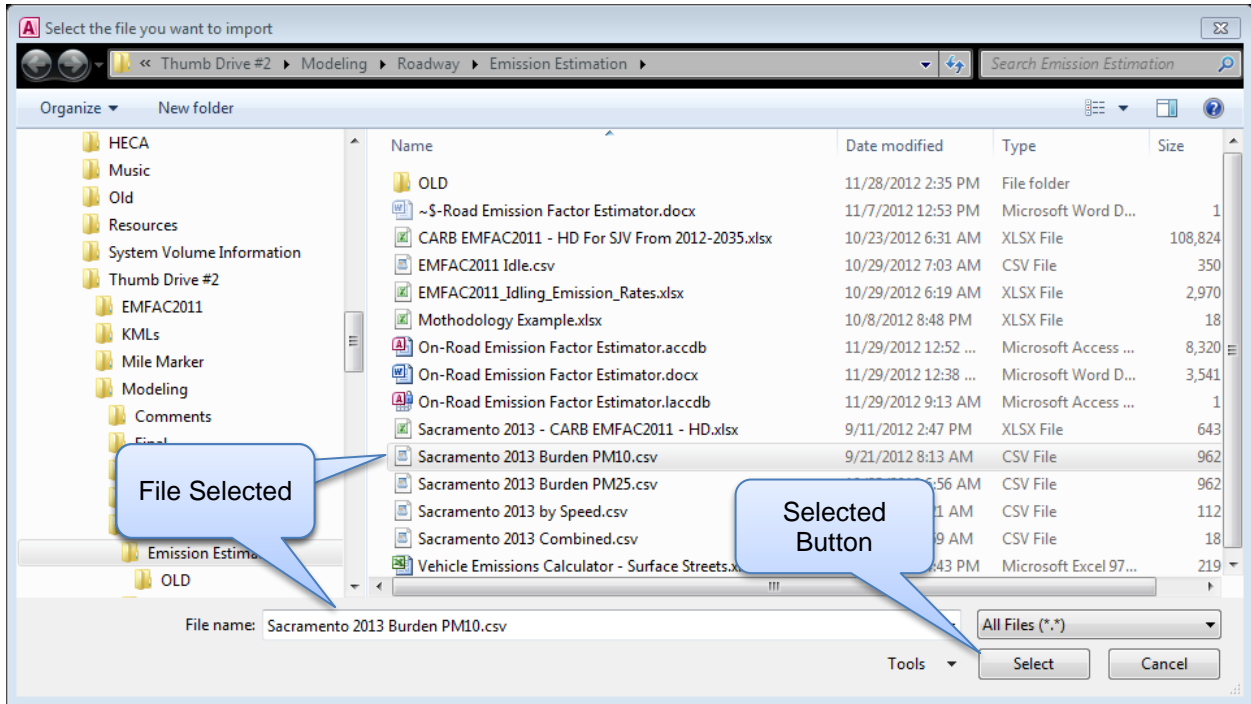

Figure 5-10 Select Burden File
- From the file dialog screen select the file to import and click the "Select" button, see Figure 5-10. The full path of the file selected will be placed in the "File Name" field.